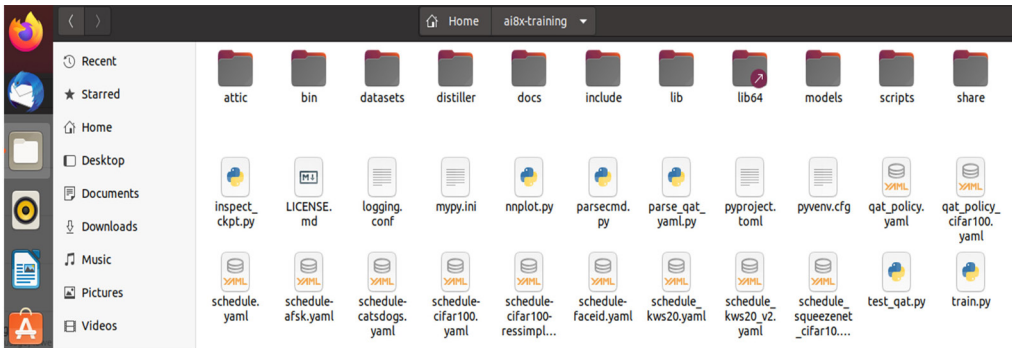

Figure 17.29 Navigate to folder ai8x-training
- Click **Files** on your Desktop to navigate to folder **ai8x-training** (see Figure 17.29)